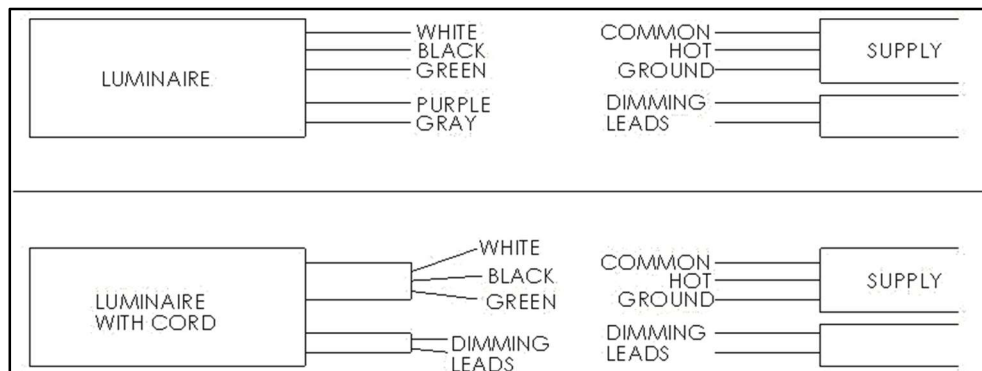

Figure 4
3. Connect incoming power to fixture leads as shown in wiring diagram. (see Figure 4)